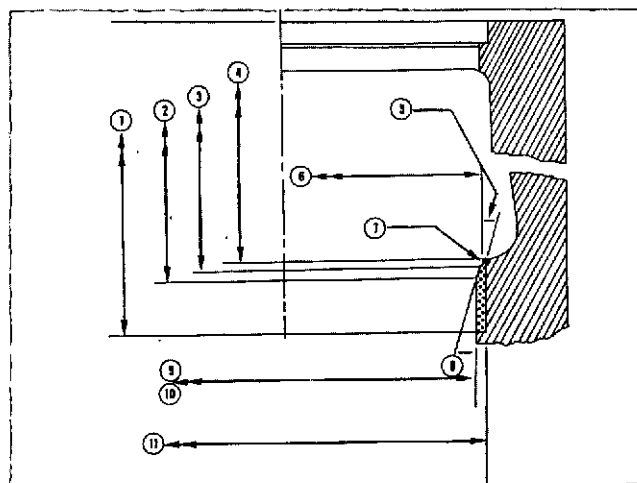

Fig. 1-1-23, V40108. Sleeve and block boring dimensions
1. Bore block as shown in Fig. 1-1-23 and to dimensions as follows:
15. Bore sleeve inside diameter as shown in Fig. 1-1-23 and to dimensions as follows:
a. Bottom of sleeve (8) 20 deg. chamfer to (2) block deck 7.314 to 7.326 inch [185.7756 to 186.0804 mm].
b. Top of sleeve 20 deg. chamfer to (3) block deck is 7.265 to 7.285 inch [184.5310 to 185.0390 mm].
c. Bottom of sleeve (7) 0.040 to 0.060 inch [1.0160 to 1.5240 mm] radius to block (4) deck 7.187 inch [182.5498 mm] maximum.
d. Top of sleeve (7) radius is 0.040 to 0.060 inch [1.0160 to 1.5240 mm] (6) diameter 6.250 to 6.260 inch [158.7500 to 159.0040 mm].
e. Sleeve (9) bore diameter is 6.124 to 6.126 inch [155.5496 to 155.6004 mm] to a (10) depth of 8.850 to 8.875 inch [224.7900 to 225.4250 mm].